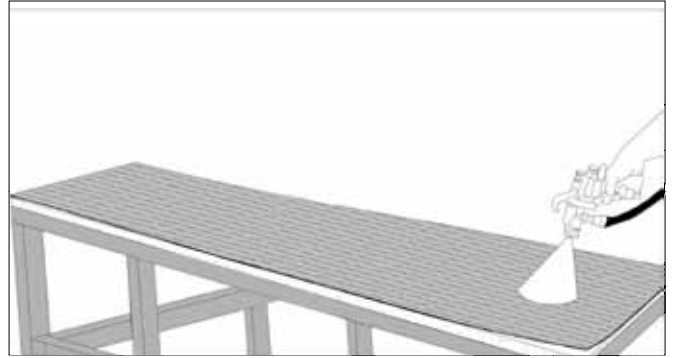

Figure 20A
- Place the substrate cutout of the sink on the backside of the laminate. (FIG. 20A)
- Apply contact adhesive per manufacturer's recommendations to the back side of the laminate. (FIG. 20A)